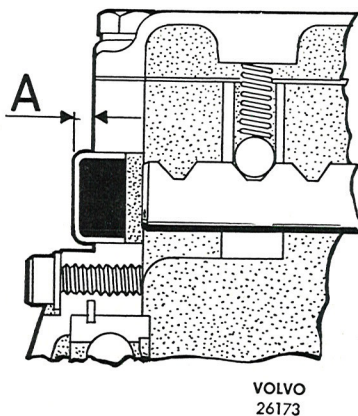

Fig. 4-41. Fitting end cap over selector rail
N. B. If the end caps at the front end of the housing have been removed, these should be fitted in the same way as previously, i.e. the centre end cap should project about 4 mm (0.16") outside the face of the housing, see Fig. 4-41.